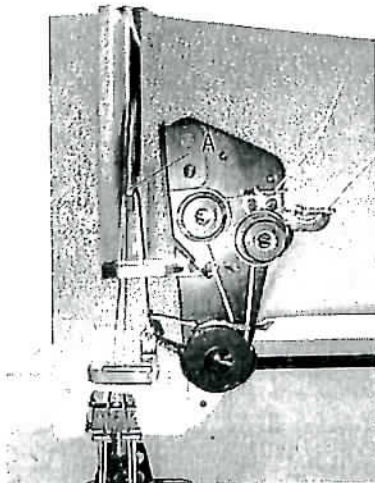

Fig.31
## 21. REPLACEMENT OF THE CONNECTION BELT (Figs. 31, 32, 33 & 34)
- 1) when the connection belt removed from the pulley for adjusting and or replacing purposes of the parts, it should be replaced by the processes, as followings: (Figs. 31 & 32)